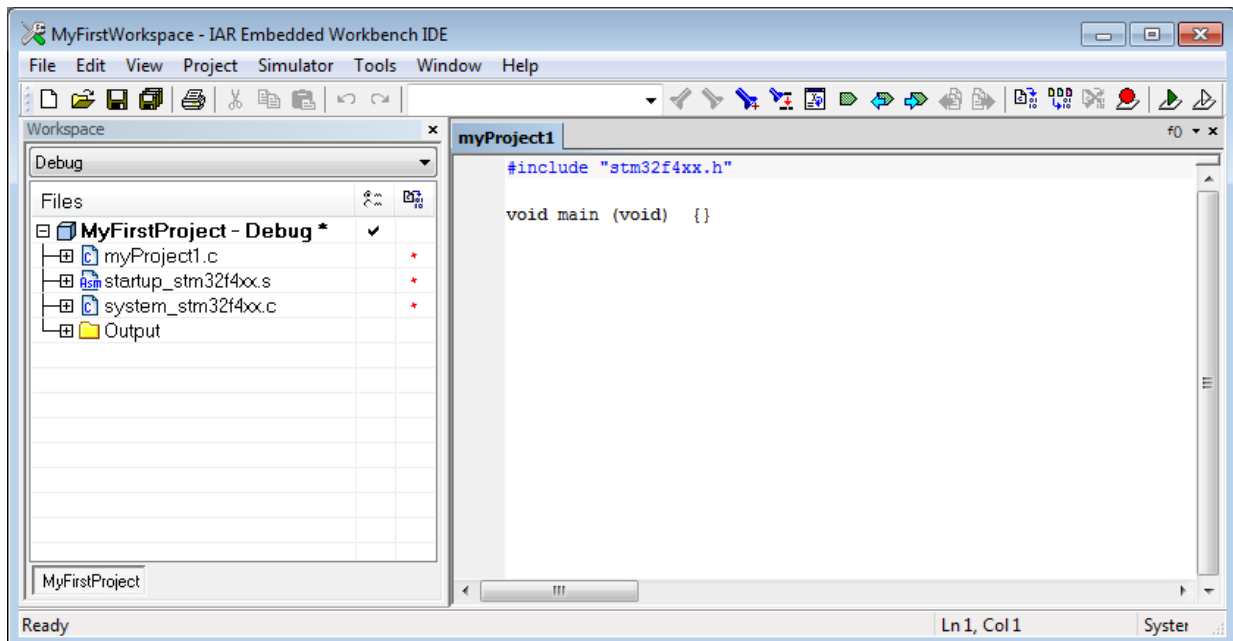

Figure 6: A fully defined minimal project within a workspace
- The compilation and linking can be initiated either from the menu (“Project” -> “Compile”) or simply by pressing F7. There is also an icon on the toolbar to initiate the compilation (Fig. 6, fifth icon from the right on the toolbar).